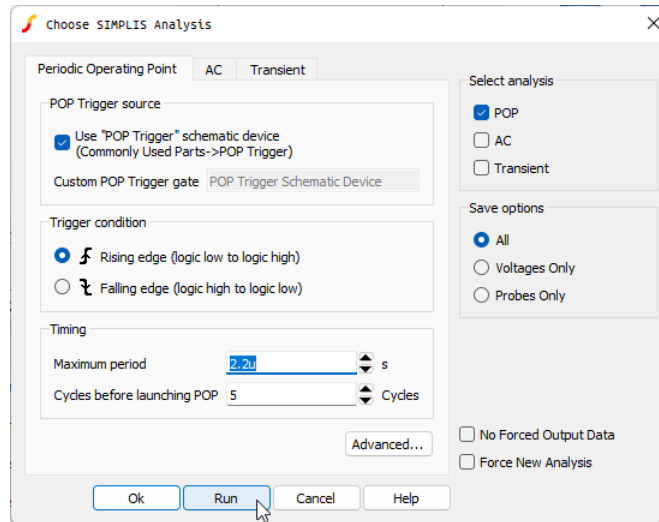

Figure 13: Set Up POP Analysis
3. Under the Select Analysis section, check the “POP” box (see Figure 13).